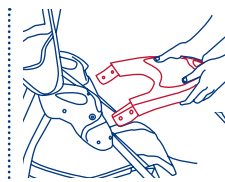

Fig. 11a
**To attach the front child tray:** line up male fittings of the child tray with the female fitting on the outside of the center joint and push inward (toward the rear of the stroller) until locked in place. (Fig. 11a)